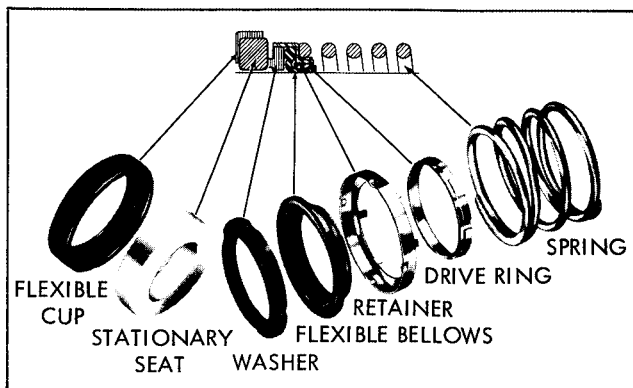

Figure 1. Mechanical Seal
- I. Slide one seal lock collar (54) with setscrews (55) facing the impeller onto each end of the shaft. Position on scribe mark made during disassembly and lock in place.
- III. Place the seal's spring, drive ring, retainer, flexible bellows, and washer on shaft sleeve in respective order. (Refer to Figure 1.)
- IV. Thoroughly inspect cavity of seal gland (49) for burrs or nicks which could damage the seat of seal. Apply a film of liquid detergent to seal seat and install it in the seal gland cavity, taking care to seat it evenly and squarely.
- II. Place "O" rings (51) around collars (54) and put the collars with stationary seats facing away from impeller on ends of shaft. Slide flexible bellows, washers, and springs on shaft in the order shown in Figure 1, for each half of double seal assembly (53).